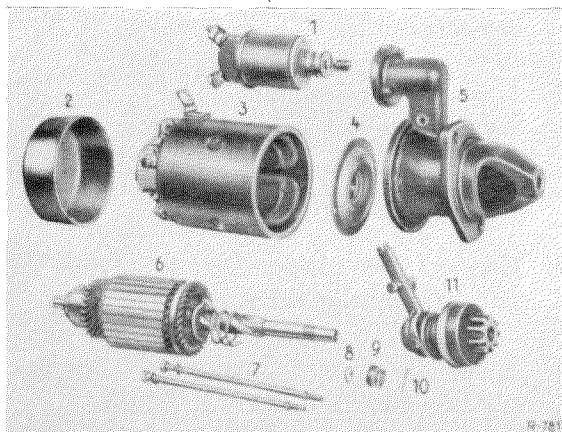

Figure 15-4/1
2. Remove end cap (2) after unscrewing the two fixing screws (Figure 15-4/1).
4. Disconnect at solenoid switch the copper lead between field coil and solenoid switch (1) (Figure 15-4/1).
5. Remove the solenoid switch (1) from the drive bearing (5) after unscrewing the three slotted screws M 5 (Figure 15-4/1).
6. Remove the hex nut and lock washer from the pivot pin of the engaging lever (11) and drive out the pivot pin with a suitable drift.
7. Remove the two hex nuts and lock washers from the threaded bolts at the commutator bearing and take the drive bearing (5) with intermediate bearing (4) and arma-
ture (6) off the armature housing (3) (Figure 15-4/1).
8. Unscrew the two threaded bolts (7) from the drive bearing (5) and remove the drive bearing from the armature.
9. Clamp the armature in two suitable wooden jaws and pull the split pin (10) out of the castle nut (9) located on the front end of the armature shaft.
**Caution, left-hand thread.** Then press out the retaining ring (8) with a screwdriver and take off pinion assembly with intermediate bearing (4) and the parts of the armature brake (Figure 15-4/1).